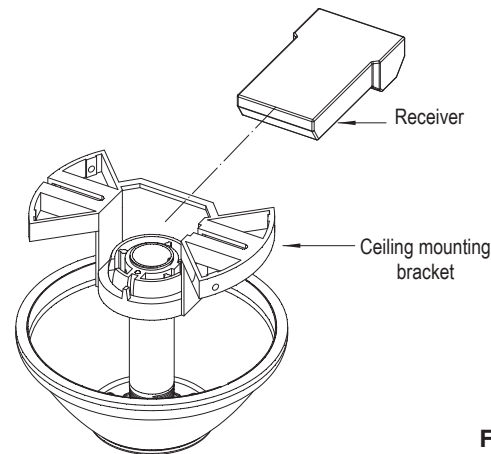

Fig. 11
Step 1. Insert the receiver into the ceiling mounting bracket with the flat side of the receiver facing the ceiling. (Fig. 11) For best performance, make sure the Black Antenna, on the end of the receiver, remains extended and not tangled with any of the electrical wires.